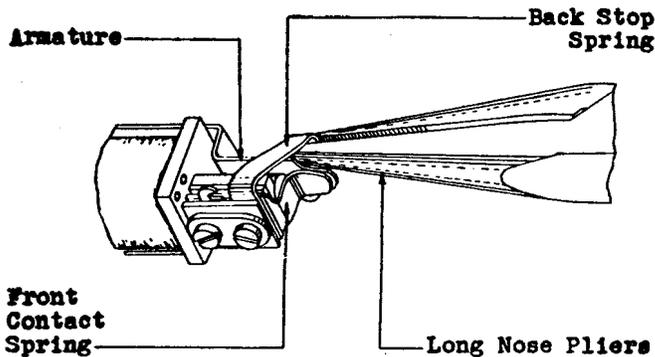

Fig. 7 - Method of Adjusting for Contact Separation of 194-type Relays
(8) *194-type Relays:* If the contact separation is unsatisfactory, adjust the backstop as required with the long-nose pliers as shown in Fig. 7.